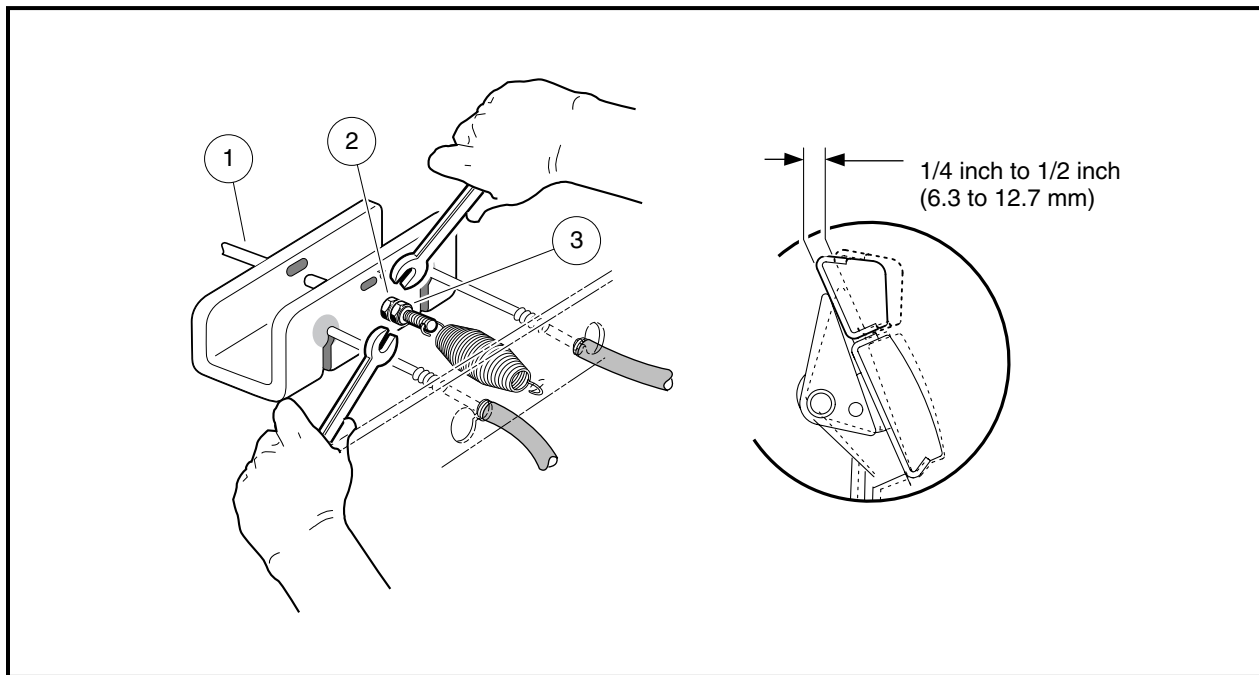

Figure 5-26 Brake Pedal Free-Play Adjustment
- 3.2. Tighten the nut (2) on the equalizer rod (1) so that the brake pedal free play is 1/4 to 1/2 inch (6.3 to 12.7 mm) (**Figure 5-26, Page 5-18**).
- 3.3. Tighten the jam nut (3) while holding the adjustment nut (2) in the correct position (**Figure 5-26, Page 5-18**).